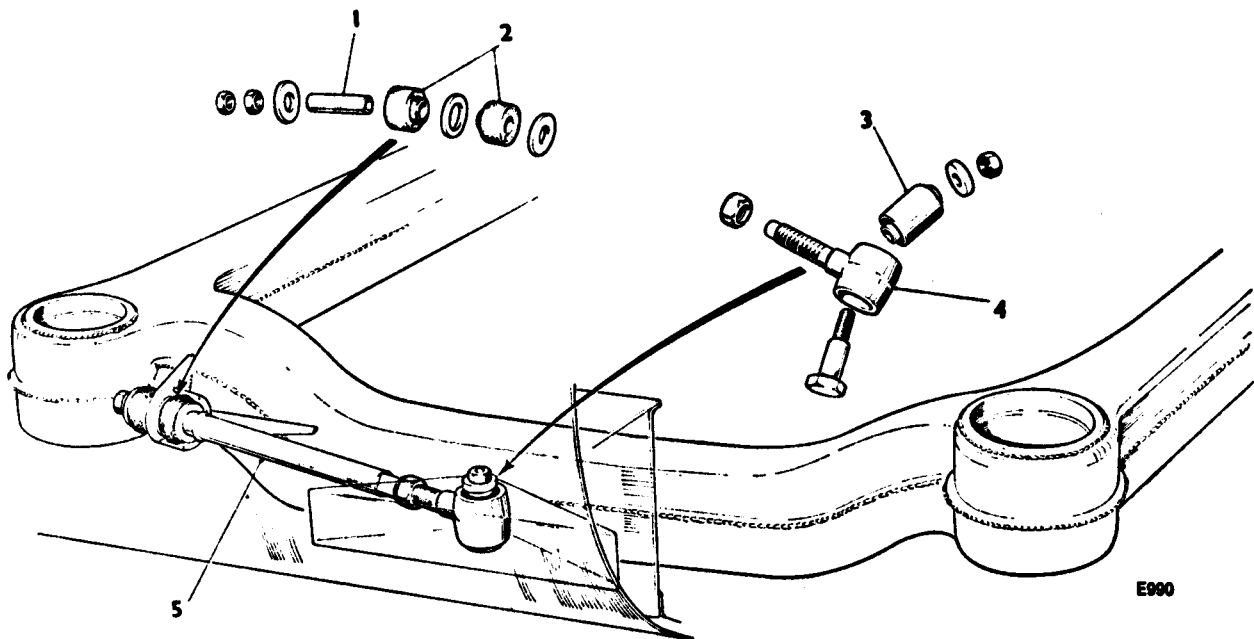

FIG. H17 EXPLODED VIEW PANHARD ROD
Panhard rod—To remove (see Figs. H17 and 18)
6. Inspect the polyurethane pads (see Fig. H17) and rubber-bonded metal bush for deterioration and, if necessary, renew.